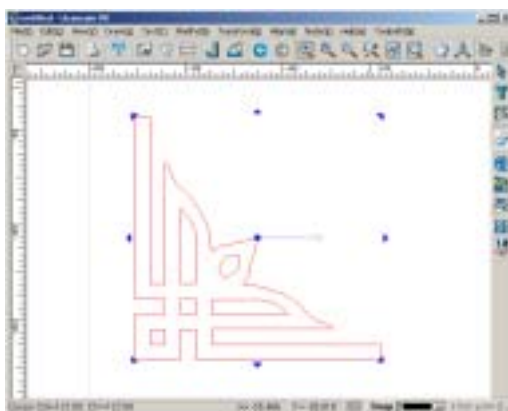

Fig. 12-46
2. Select a symbol from the Symbol library, and adjust its size if necessary. (Fig. 12-46)